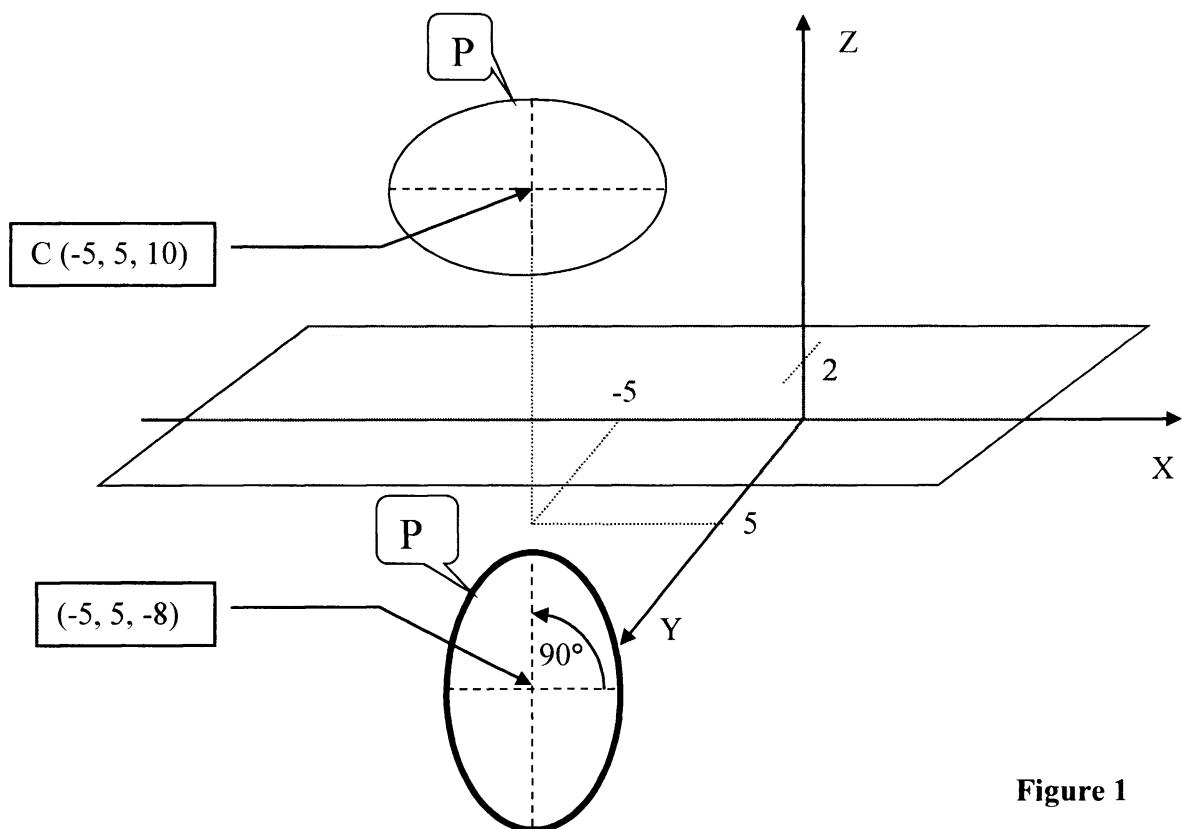

Figure 1
2.1 In figure 1, determine the matrix of each position P^* on ellipse object after rotation 90° on Y-axis and then reflection by XY-plane at $Z=2$. The center of ellipse is $C (-5, 5, 10)$ while $a = 5$, $b = 3$ are the semi-major axis and semi-minor axis, respectively.